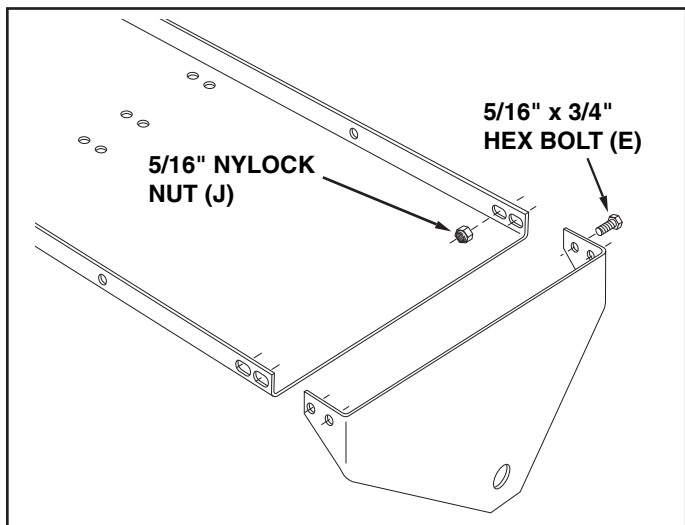

FIGURE 5
5. Assemble the end plates to the ends of the tray using four 5/16" x 3/4" hex bolts (E) and four 5/16" nylock nuts (J) for each end plate. **Do not tighten until final step.** See figure 5.